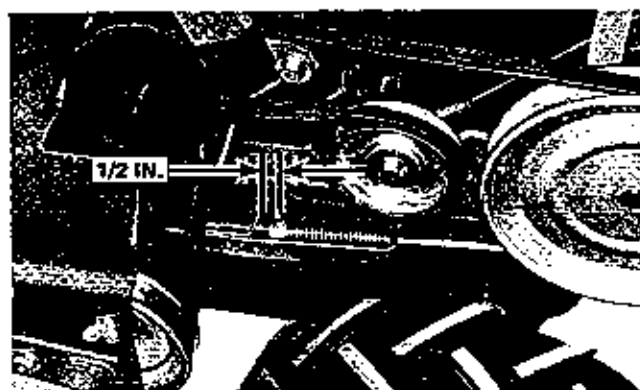

FIGURE 12
2. Belt tension for the auger drive is regulated by the position of the set collar on the Blower Control clutch rod. With the Auger Control clutch rod lever engaged, there should be 1/2 inch clearance between the collar and the front ear of the rod bracket. Loosen the square-head set-screw to position the stop collar. See Figure 12.